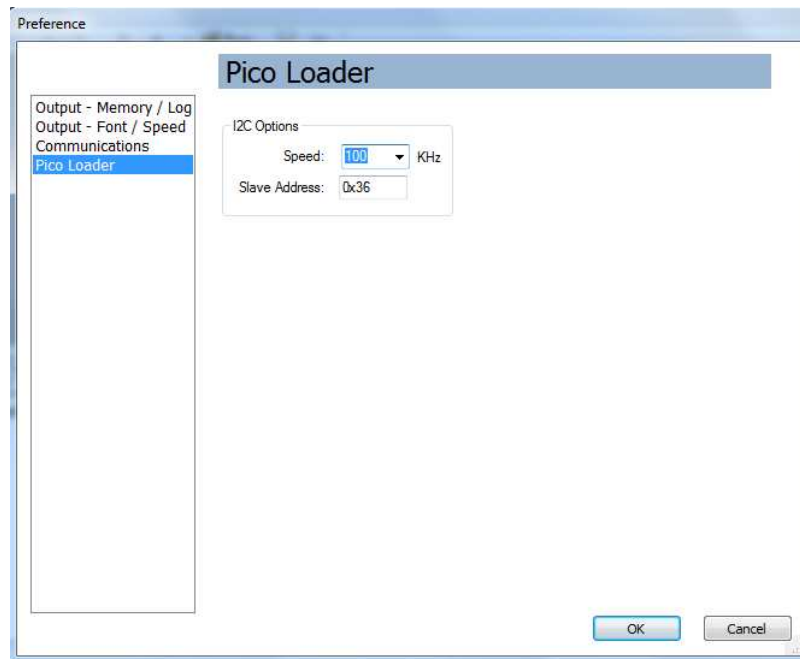

Figure 3. Selecting Pico Loader Options GUI
1. At the end of the dialog box, select 100 kHz as the I²C speed (see Figure 3).